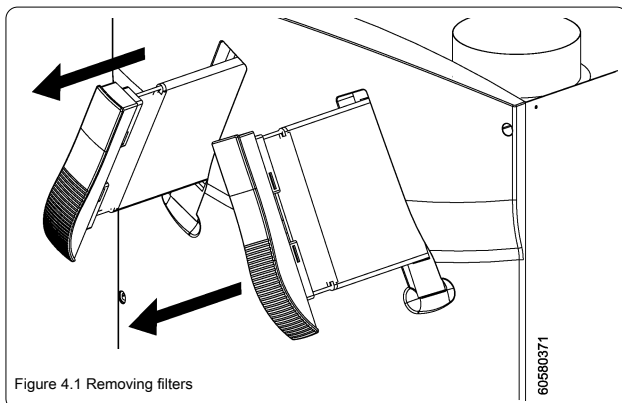

Figure 4.1 Removing filters
- Pull the filter holders out of the appliance (see fig. 4.1).